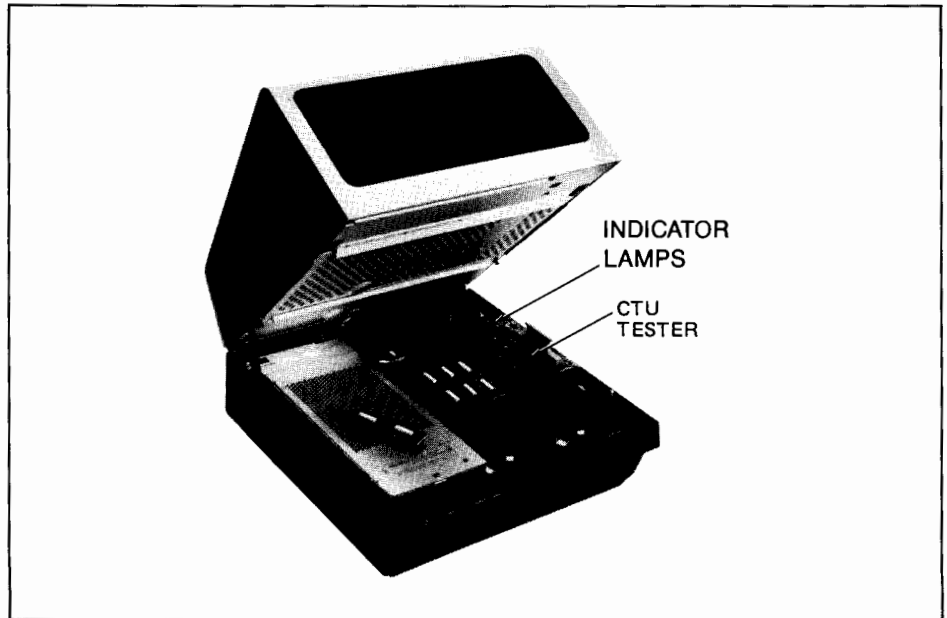
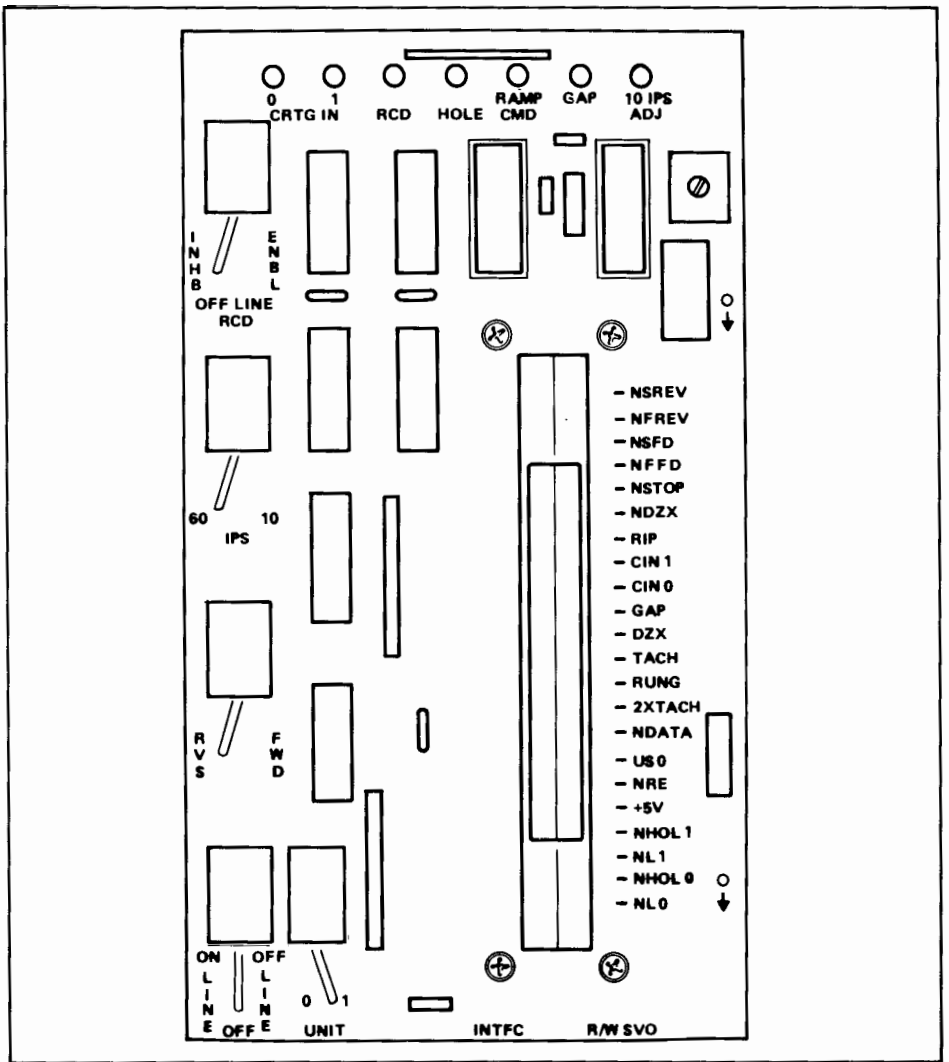

Figure 5-8. CTU Tester Installation
Figure 5-9. CTU Tester
3. Install CTU Tester (figure 5-9) on top connectors of CTU Interface and Read/Write PCAs so that tester indicator lamps are closest to rear of terminal's mainframe (figure 5-8).